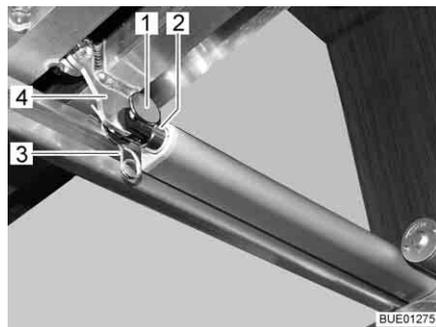

Fig. 138 Drive
- Remove the connection (e.g. pin and cotter pin (Fig. 138,1 and 3)) between the push rod (Fig. 138,2) and the slatted frame (Fig. 138,4).